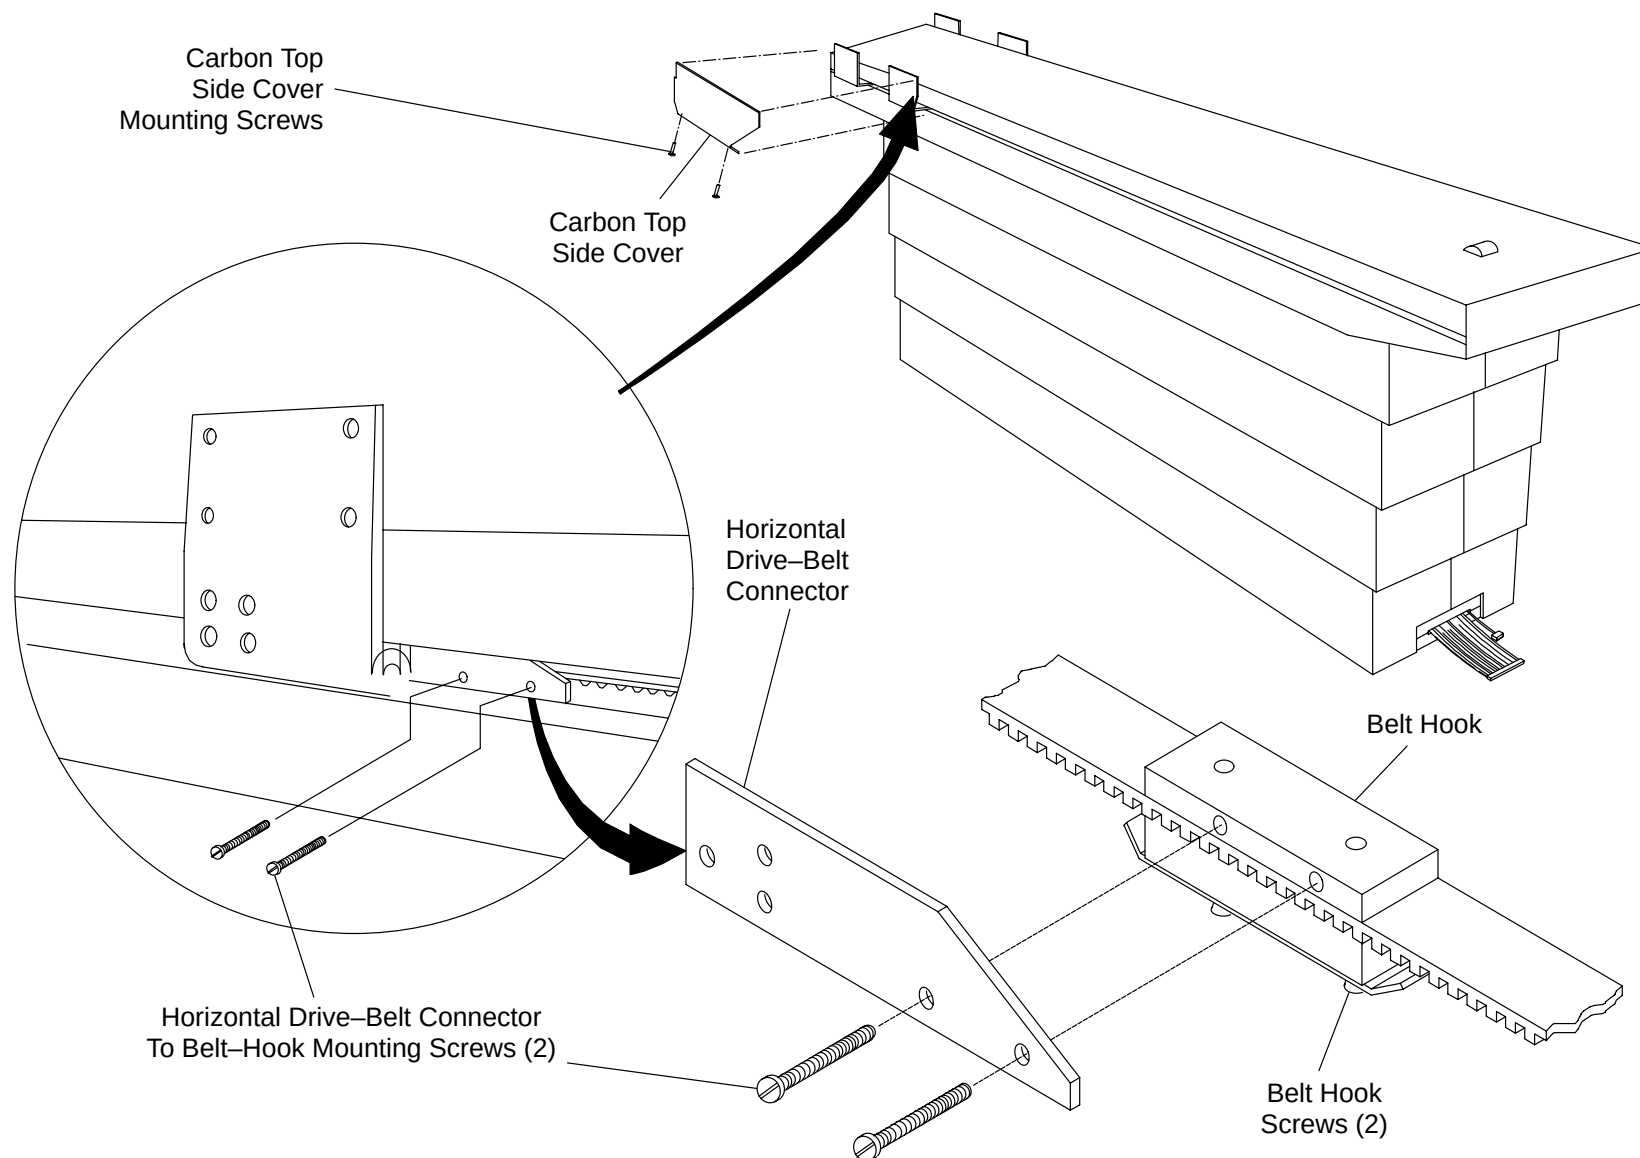

FIGURE 195 BELT BLOCK LOCATION ON CARBON TOP
4. Disconnect the Horizontal Drive-Belt Connector to Belt-Hook Mounting Block from the J-block (if required). See Figure 195.